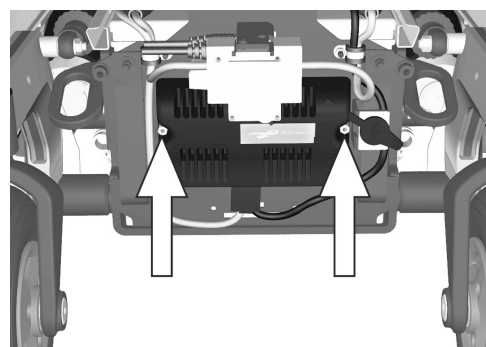

Figure 486. The power module is fitted with two nuts.
1. Reassemble the power module and battery cable holder, it is fitted with two nuts. See fig. 486.
2. Reconnect the electrical connections to the R-net controller and wrap the cable according to fig. 486.